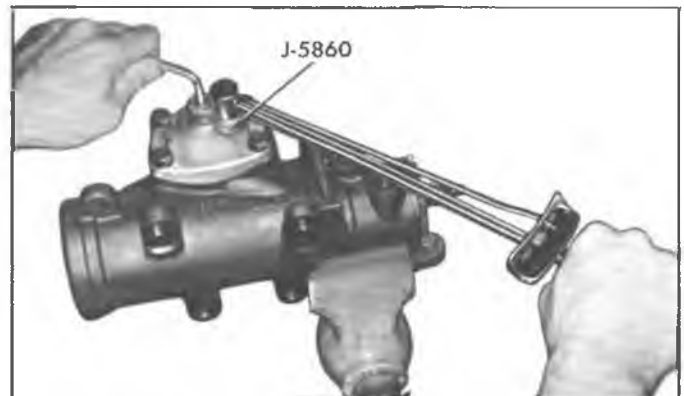

Fig. 61—Torquing over Center Locknut
- e. While holding the adjusting screw, tighten the locknut 25 ft. lbs. using Adapter J-5860 (fig. 61) and recheck the adjustment.